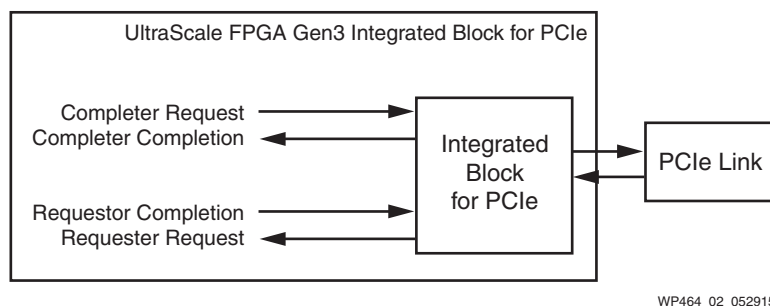

Figure 2: Enhanced AXI4-Stream Interface
1. **AXI4-Stream:** This interface splits/combines the data stream into Completer and Requester streams. This allows for optional features such as packet destraddling, data realignment, and completion tag management. See Figure 2.